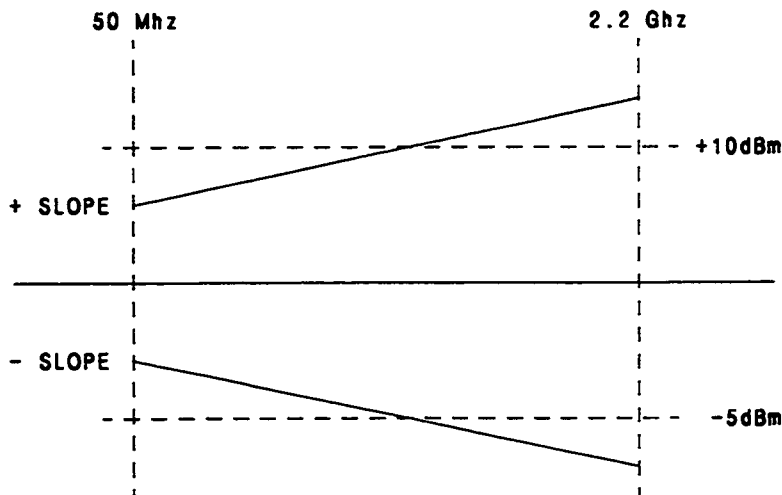

Figure 5-32. 0 Slope Adjustment
9. Adjust A4R1 (SLP) to get the same but opposite difference between (50 MHz and 2.2 GHz at  $-2 \text{ dBm}$ ) and (50 MHz and 2.2 GHz at  $+13 \text{ dBm}$ ). See Figure 5-32.